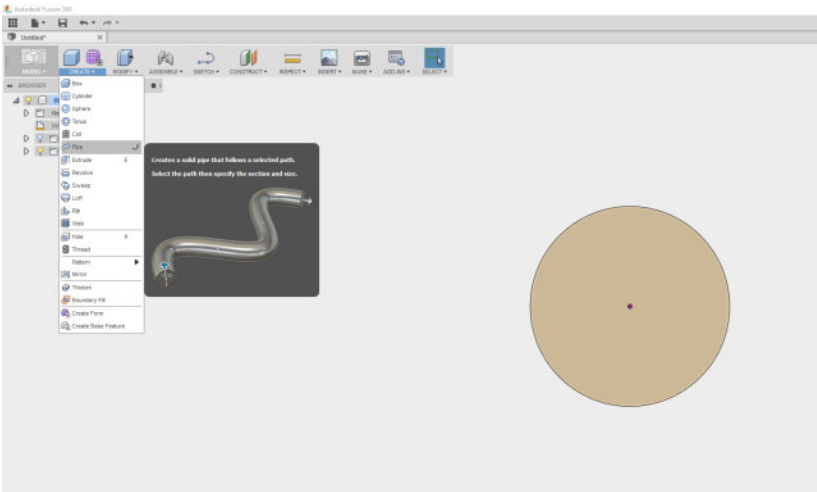

Figure 11-8. Selection of Pipe option under the Create icon
8. Click the small arrow under Create and select Pipe as shown in Figure 11-8.